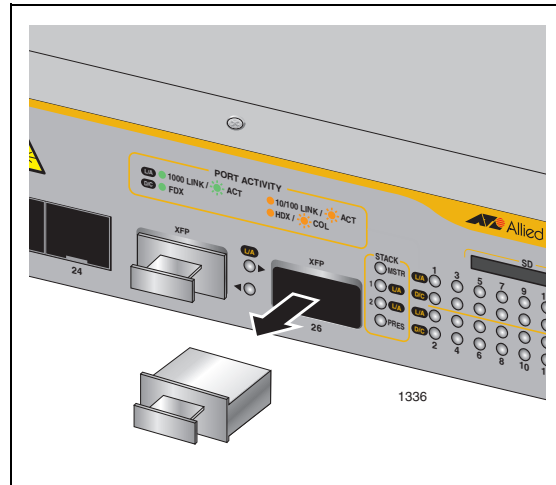

Figure 44. Removing an XFP Dust Plug
1. Remove the dust plug from a transceiver slot on the switch. Refer to Figure 44.